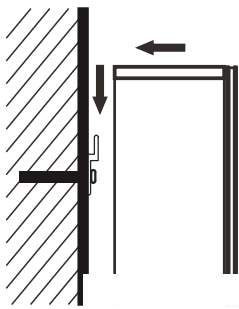
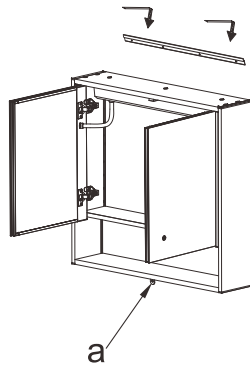

Fig.3
Fig.4
- 2.1 Attach the mirror cabinet to the bar as shown in Fig. 3, open the cabinet door, and mark on the wall with a pencil (Fig. 4) through the backplane hole (a).
- 2.3 Repeat the operation as shown in Fig. 3 and mount the mirror cabinet to the bar, make sure that the circuit on the wall is not energized and connect the three-core wire reserved on the wall to the three-core wire terminal block on the product (Fig. 6), and then tighten the screws on the backplane (Fig. 6-b).